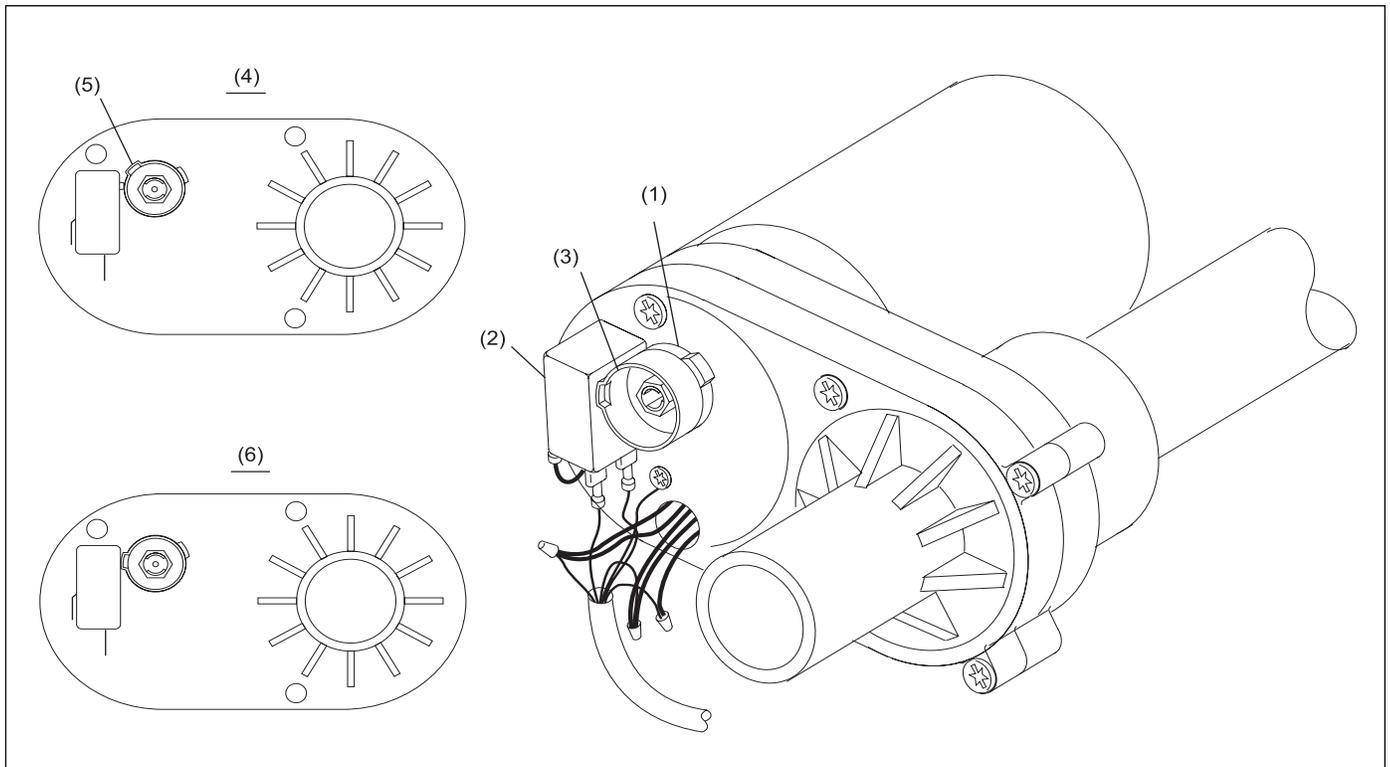

Figure 10. Adjust Limit Switch Cams
3. Locate the two limit switch cams. The inner switch cam is for the OPEN (gutter) position and is NOT adjustable. Refer to *Figure 10* for switch cam location.
4. With the gutter in the down position, rotate the outer (close) switch cam either direction until the lobe on the switch cam contacts the switch (switch is made). Refer to *Figure 10*.
**NOTE:** *It is important that the OPEN motor limit switch cam is "closed" (Figure 10) BEFORE making any adjustment to increase or decrease stroke of actuator sleeve.*
**NOTE:** It is important that the OPEN motor limit switch cam is “made” (Figure 10) BEFORE making any adjustment to increase or decrease stroke of actuator sleeve.